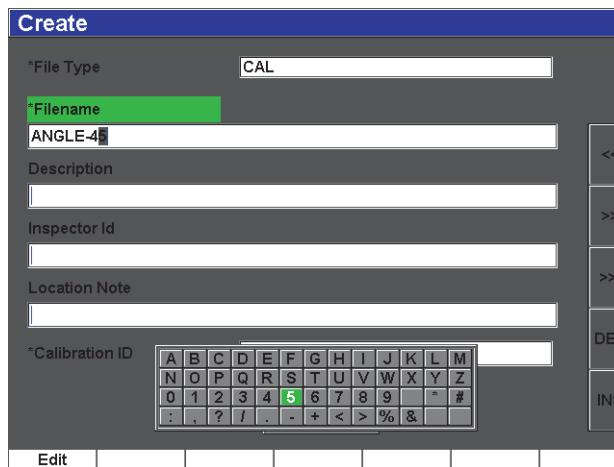

Figure 2-20 The virtual keypad
6. Use the knob or arrows to navigate through the virtual keypad (see Figure 2-20 on page 53).
7. Insert a character by pressing **INS** (see Figure 2-20 on page 53).